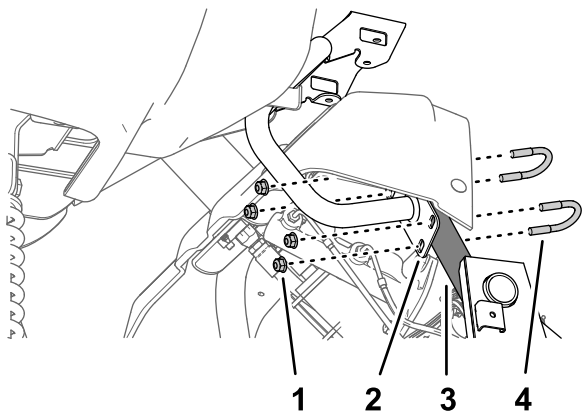

Figure 161
3. Assemble the plate of the monitor mount to the support tube of the machine chassis (Figure 161) with the 2 U-bolts and 4 flange locknuts (5/16 inch).